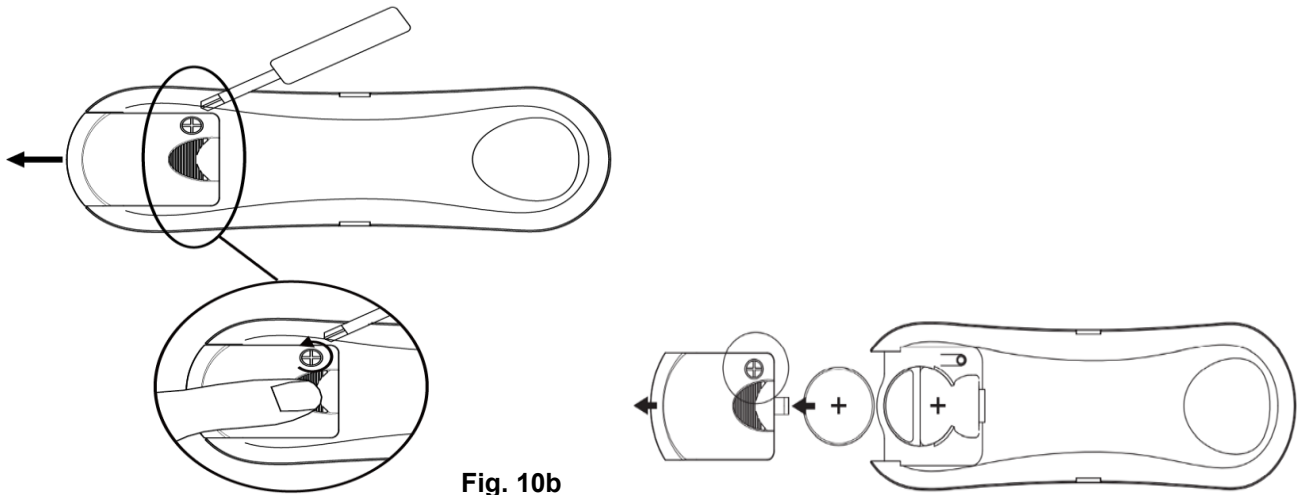

Fig. 10b
2. Slide to remove the battery compartment cover from the back of the remote, to access the battery (Fig. 10b)